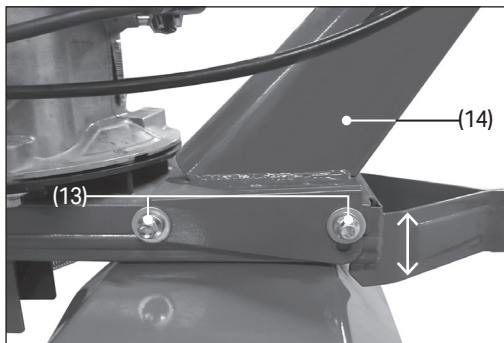

Fig. 13
To adjust the height of the handlebars, slightly loosen the handlebar height adjustment bolts (13), raise the handlebar support (14) to the appropriate height and retighten all bolts (Fig. 13).